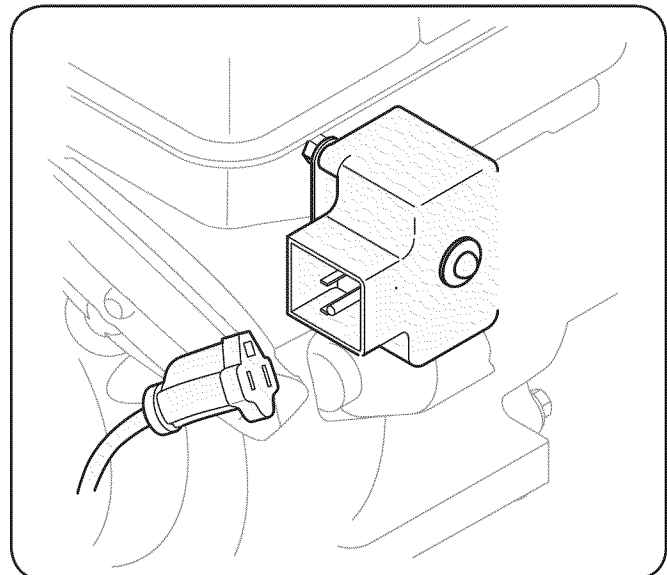

Figure 3-5
**NOTES:** When connecting power cord always connect power cord to switch box on engine first; then into outlet. See Fig. 3-5